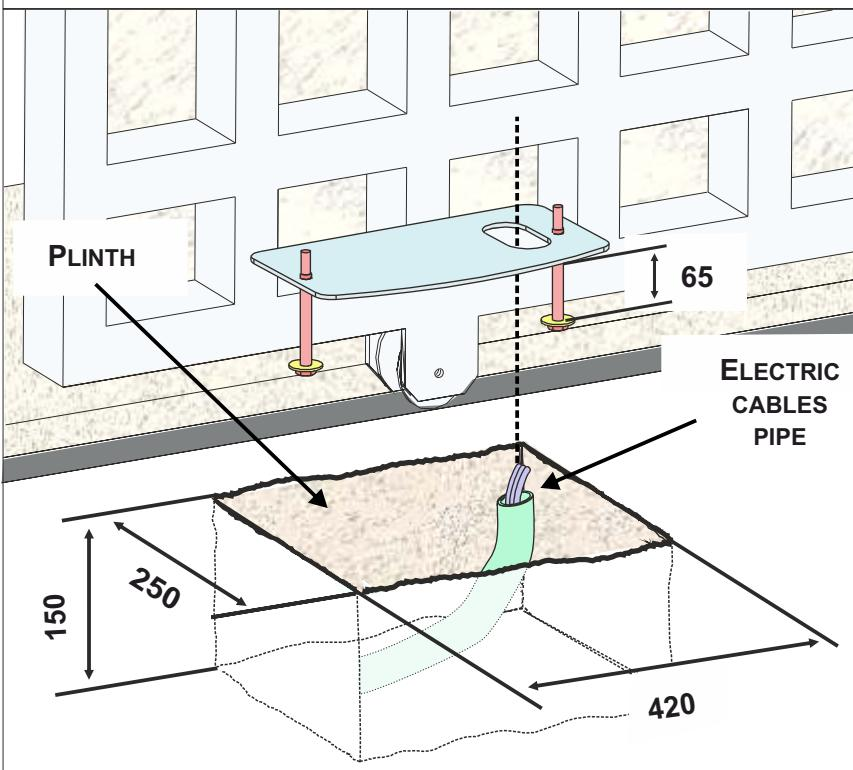

Fig. 3
- 4.1. Prepare a concrete basement according to the dimensions shown in Fig. 3; The foundation plate and the anchor bolts must be concreted inside the basement